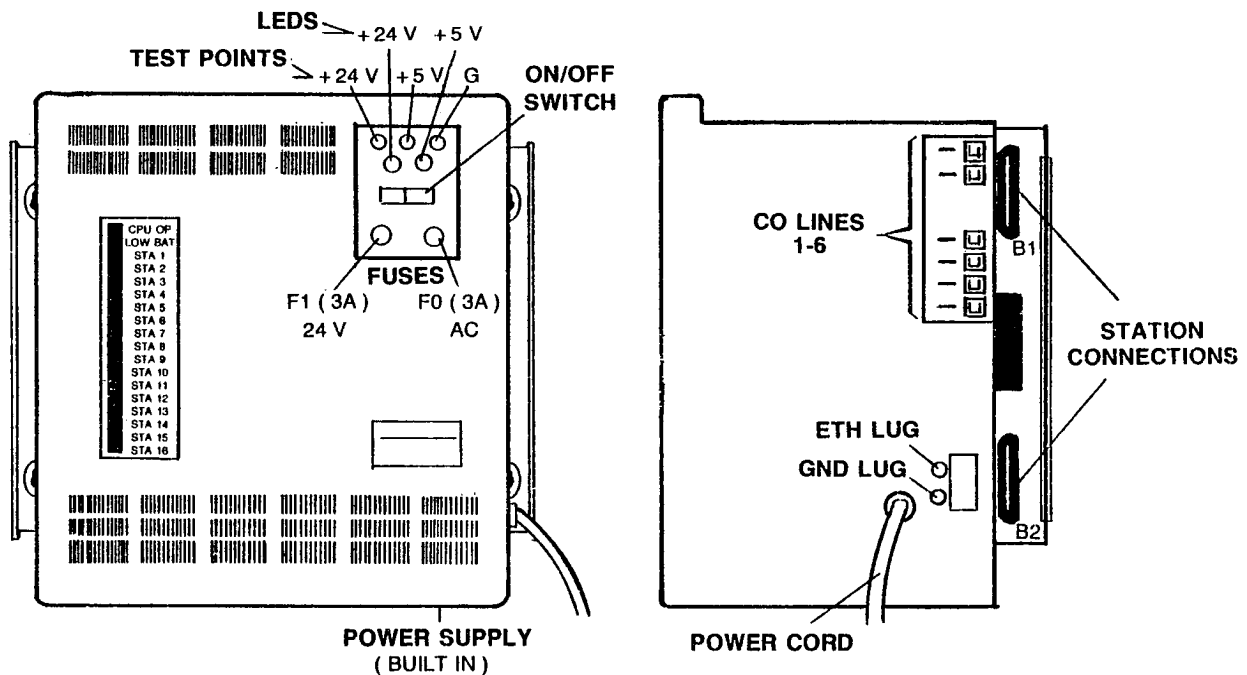

Figure 1-1 KEY SERVICE UNIT / POWER SUPPLY, EK-616
**2.02** The EK-616 Key Service Unit ( KSU ) and Power Supply ( Figure 1-1 ) are contained in one unit designed for wall mounting. The KSU portion of the unit houses replaceable Printed Circuit Boards ( PCBs ). The power supply portion supplies DC voltage to the system.